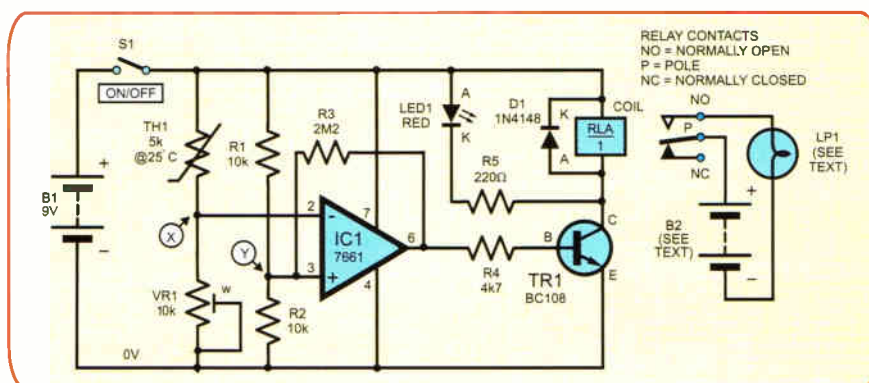

Fig.3.1: Circuit diagram for the Thermostat
Fig.3.1 shows one way of doing this electronically. The circuit is designed to maintain an environment, such as a small aquarium or a small enclosure containing insects, at a steady temperature.
The circuit comprises three building blocks – see Fig.3.1. In sensing building block 1, a voltage divider is made up of the thermistor and a potentiometer, VR1, which is used as a variable resistor, both connected in series. The voltage at point X rises and falls as the thermistor warms up and cools, respectively.
- Plus:** Heating lamp (LP1) and appropriate low voltage power supply (ie, battery) – see Fig.3.1